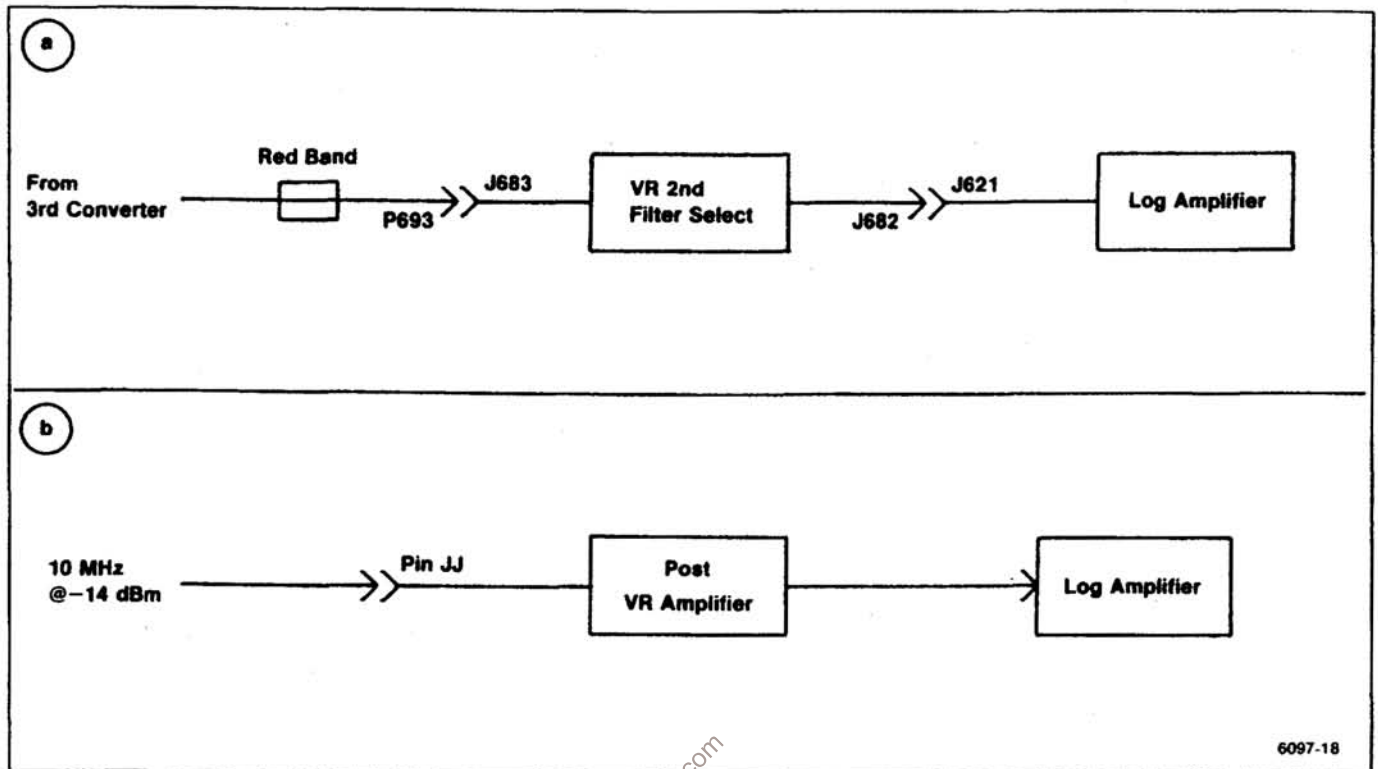

Figure 5-14. Test equipment setup for adjusting the Variable Resolution module.
a. Equipment setup is shown in Figure 5-14.
(1) Remove and install the Variable Resolution module on an extender.
(2) Use a Seaelectro male-to-male adapter and coaxial cable to connect the 10 MHz IF output signal, from the 3rd Converter, to the input of the second section (make connection from plug removed from J693 to J683).